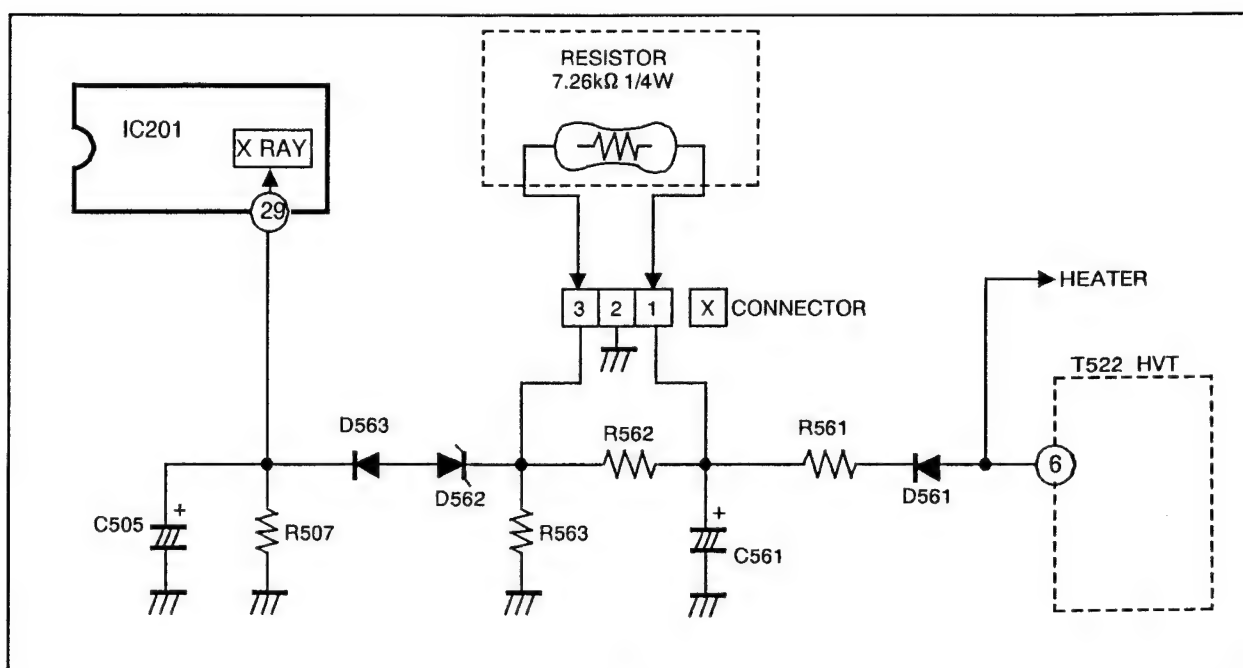

Fig. 1
After repairing the high voltage hold down circuit shown in Fig. 1.
- (1) Turn the POWER SW ON.
- (2) As shown in Fig. 1, set the resistor (between [X] connector [1] & [3]).
- (3) Make sure that the screen picture disappears.
- (4) Temporarily unplug the power cord.
- (5) Remove the resistor(between [X] connector [1] & [3]).
- (6) Again plug the power cord, make sure that the normal picture is displayed on the screen.